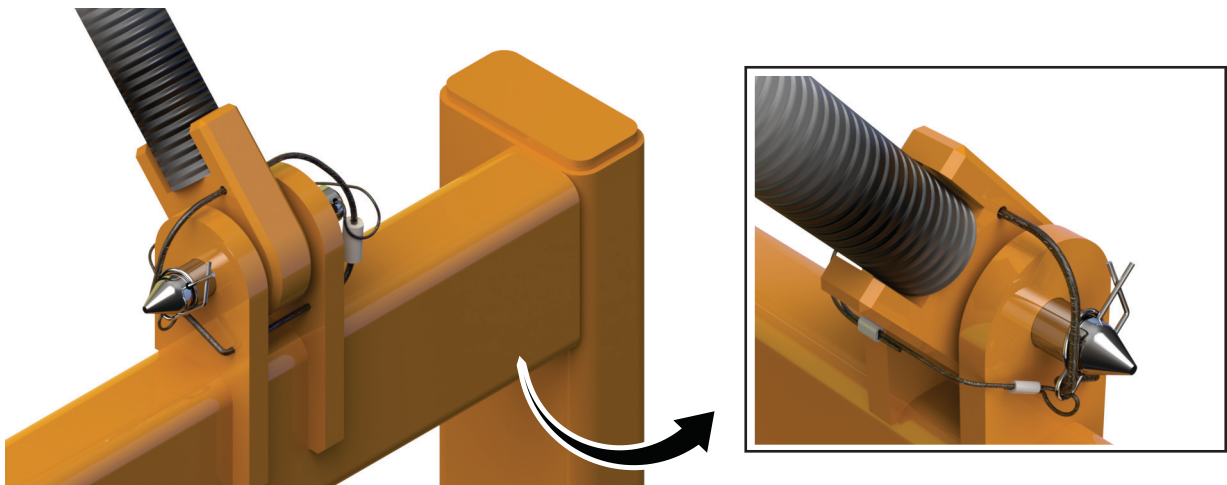

Figure 10: Routing safety wire
12. Secure each end of the blower support arm by looping the 1/8" wire rope through the top drive guard pad eye and crimp the ferrules as shown in Figure 10.